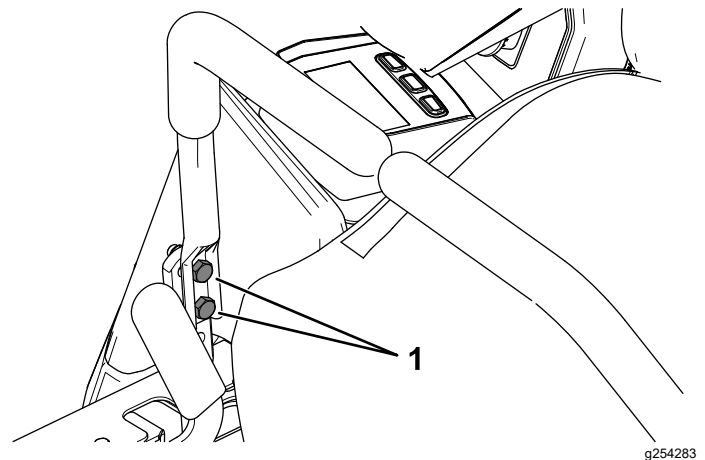

Figure 52
8. If alignment is needed, loosen the 2 motion-control lever mounting bolts on the misaligned side (Figure 52).
10. Tighten the 2 motion-control lever mounting bolts (Figure 52).